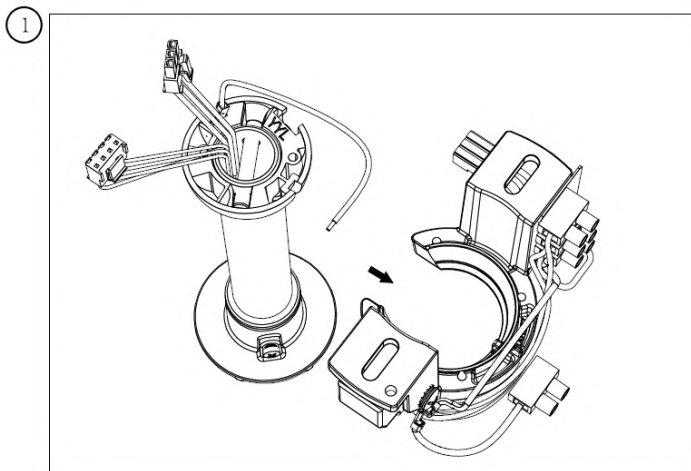

Fig. 5.1
1. Place the hanger onto the mounting bracket. Ensure the key slot of the hanger ball is positioned on the key pin of the mounting bracket to prevent the fan from rotating when in operation; (Fig. 5.1)